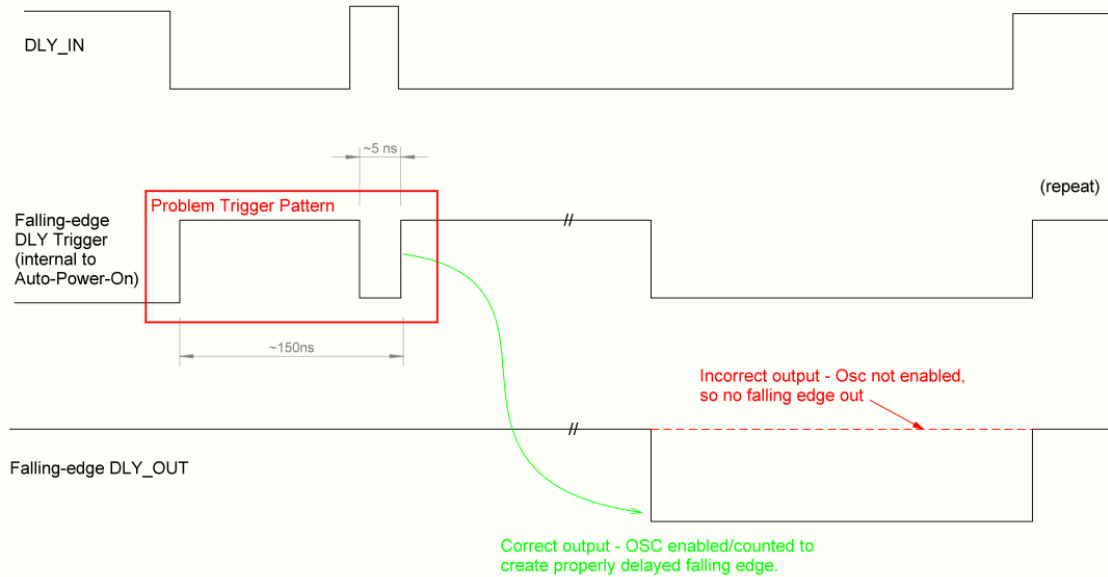

Figure 1
4. OR of OSC trigger signals from all DLYs clocked by same OSC together form a long+short glitch pattern with precise (ns) timings as shown in Figure 1. The trigger signal generation per DLY is detailed in section Description.
For this chip, the Auto Power On circuitry of the 25 kHz/2 MHz generators contains a circuit errata, which can potentially fail to power on the OSC for a specific pattern and timing of the OR of all related DLY trigger signals. The pattern is shown in Figure 1 (boxed in red) and consists of a relatively longer pulse (~145 ns) followed by a shorter (~5 ns) glitch of opposite polarity.